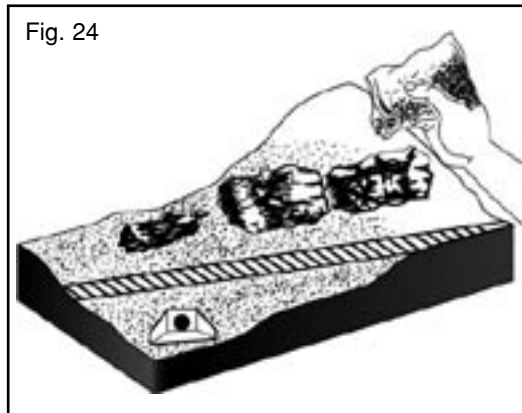

Fig. 24
A. Cut off one corner of the bag of Green Blend Blended Turf. Working in one small area at a time, generously spray the terrain base with Scenic Cement and sprinkle on a fairly thick coating of Blended Turf (Fig. 24). Apply to all areas of diorama except for the Culvert, track and rock outcroppings. Mask these areas with a sheet of paper when spraying Scenic Cement. Allow to dry completely.